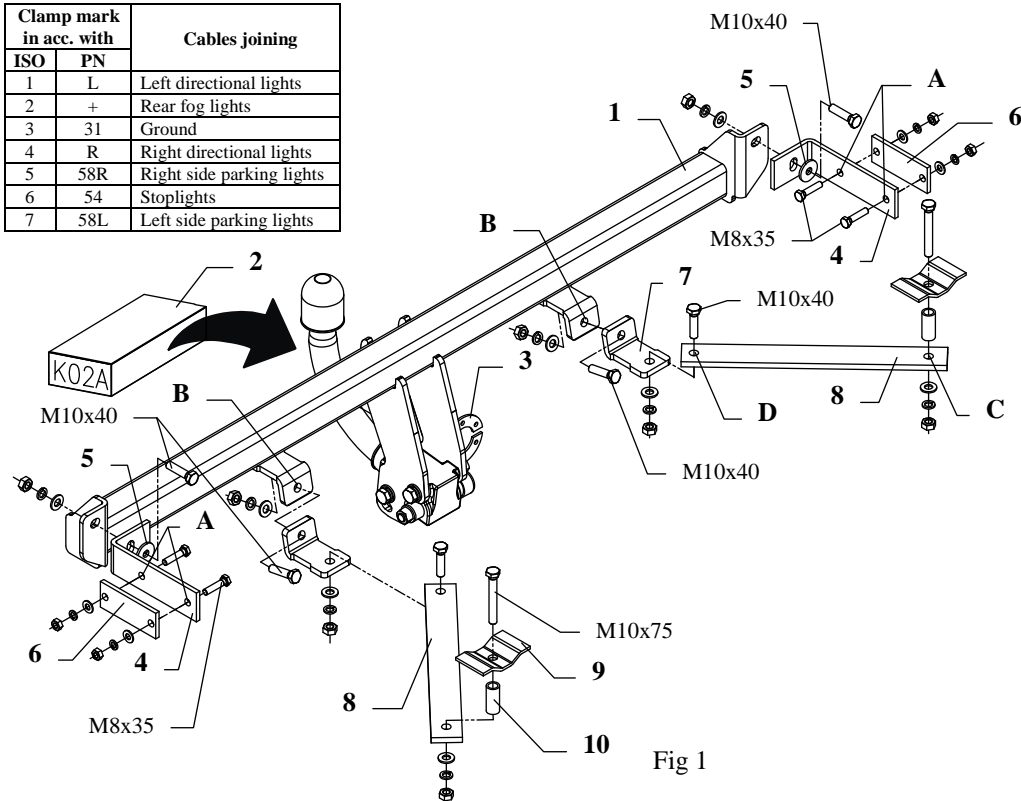
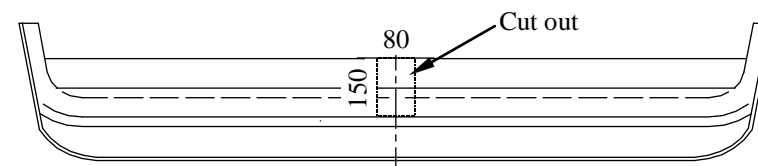

Fig 1
Fig. 2
3. Apply the main bar of the towbar (pos. 1) on bored holes and fix using bolts M10x40mm (pos. 12) through brackets (pos. 4), which one ought to place inside the trunk (on the right and left side). Use washers $\varnothing 30 \times \varnothing 10,5 \times 2,5\text{mm}$ (pos. 5).
4. Through holes (pos. A) of brackets (pos. 4) drill holes $\varnothing 9\text{mm}$ and then fix using bolts M8x35mm (pos. 13) through plate (pos. 6).
5. Through holes (pos. B) of the towbar drill (in the back piece) holes $\varnothing 11\text{mm}$ and fix with bolts M10x40mm (pos. 12) through angle brackets (pos. 7), which one ought to place from the internal side of the back piece, as showed on the fig. 1.
6. In the chassis member are holes $\varnothing 11\text{mm}$ (from the bottom of the car by piece from the right and left side), which one ought to drill throughly with the bit $\varnothing 11\text{mm}$. Then, in part trunk, drill on the diameter $\varnothing 17\text{mm}$. Into so prepared holes put distance sleeves $L=39\text{mm}$ (pos. 10), apply fish-plates (pos. 9) and put bolts M10x75mm (pos. 11), as showed on the fig. 1.
7. So prepared elements of the towbar fix with jibs (pos. 8) in marked points (pos. C and D).
8. Install the bumper after cut out of its fragment $80 \times 150\text{mm}$, as showed on the fig. 2.